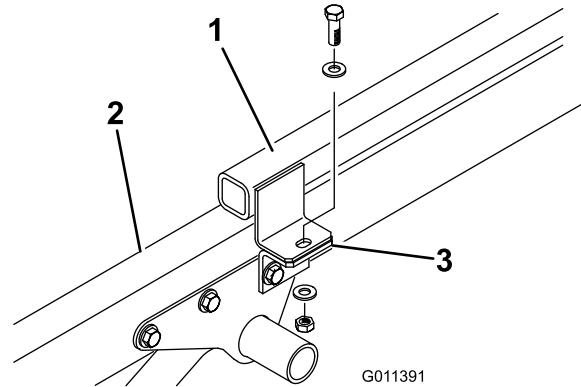

Figure 6
3. Remove the capscrew, (2) flatwashers and locknut securing each attachment bracket to hitch frame tabs (Figure 6).